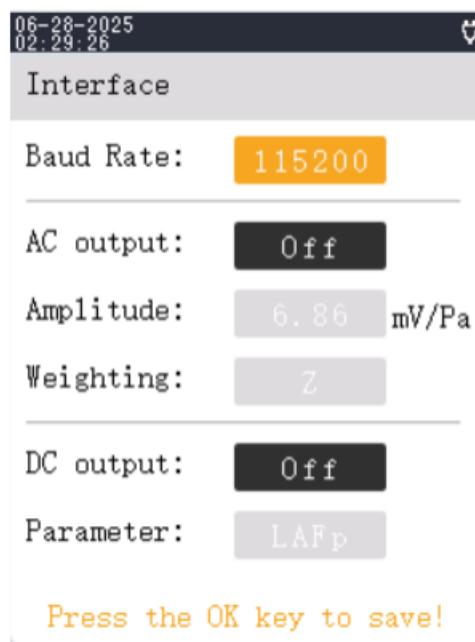
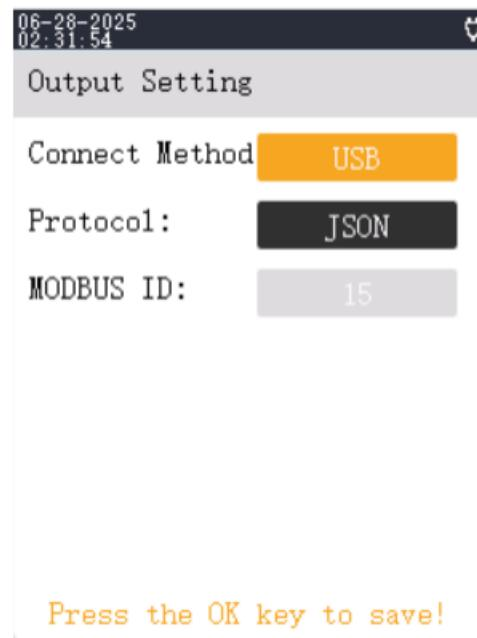

Figure 6.32
Figure 6.40
Select “Interface” in the Settings interface, and press the OK key to enter the Interface settings interface, as shown in the Figure 6.32.
- a. Serial Printing: Connect the instrument and printer via a serial cable. Turn on the printer and ensure the cable is correctly connected. In the Settings > Interface menu, set the baud rate to 115200 (see Figure 6.32). Select "Serial" as the printer connection type and press the OK key to save. Then go to Settings > Output Settings and set the connection protocol to "IO" (see Figure 6.40). Finally, open the data details screen from the data review interface and press the Start key to print.
Select "Output Settings" and press the OK key to enter the Output settings interface (Figure 6.40).